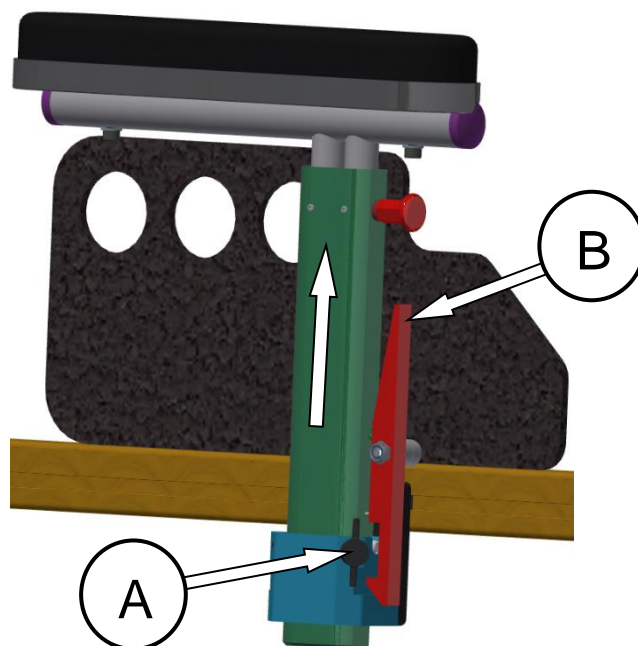

Figure 32: Removable and height adjustable T-shaped arm support.
- 1- Loosen the black clamping screw (A) located on the arm support base at the seat structure. Two (2) or three (3) turns should be sufficient (see Figure 32).
- 2- Press the release (B) to release the arm support.
- 1- Insert the arm support into its base (see Figure 32).
- 2- Close the release (B) by pulling it up and down.
- 3- Hand-tighten the black clamping screw (A).